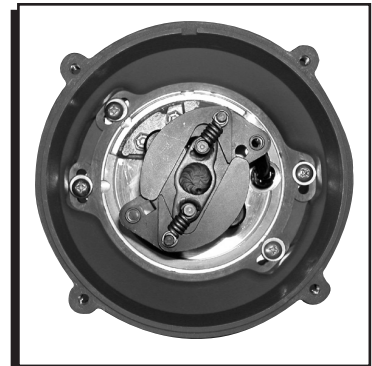

Figure 2 Installing the Adapter Base.
2. Install the Adapter Base using the four supplied Truss head Phillips screws and flat washers. Note that the Cap Spacer is slotted (Figure 2). This provides you with an adjustment for rotor phasing. For additional information on rotor phasing see the supplied Tech Brief.